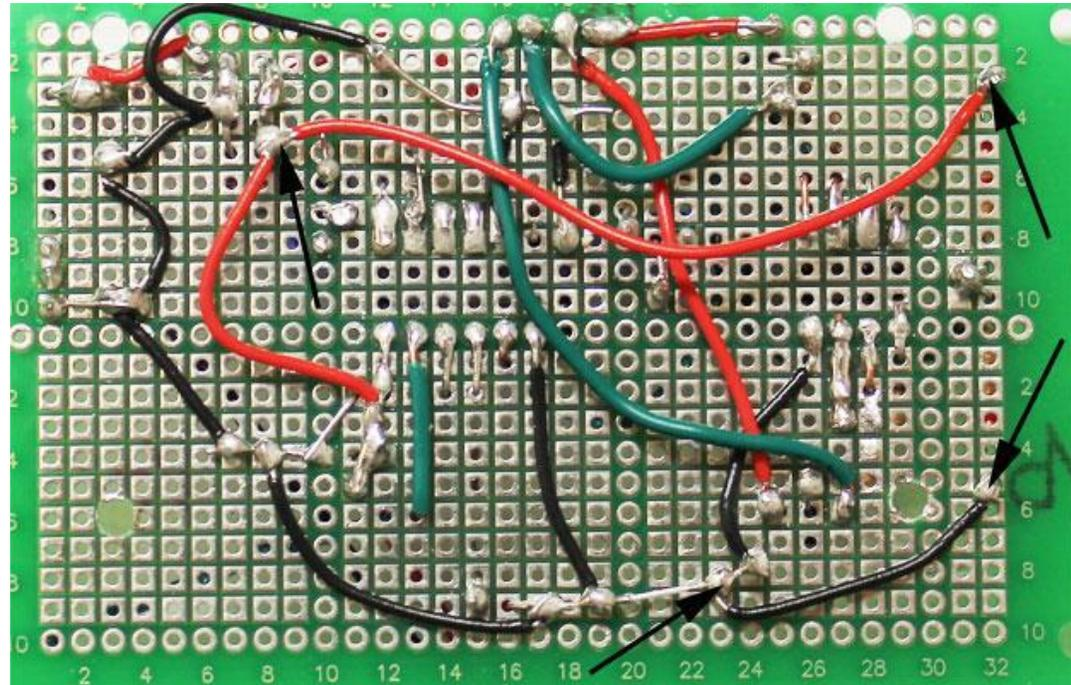

Figure 24
73. Prepare a red 22 gauge solid wire to connect the positive power bus to the free end of R3 (see arrows marking ends of red wire in Figure 24 – near top of photo). Solder the red wire to its connections.
74. Prepare a black 22 gauge solid wire to connect the negative power bus to the free wire of R2 (see arrows marking the ends of black wire in Figure 24 – near bottom of photo). Solder the black wire to its connections.